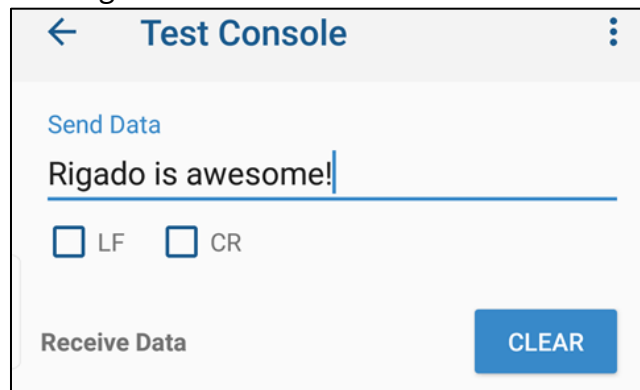

Figure 6. Toolbox Test Console "Rigado is awesome!"
2. Connect to RigCom. If there are multiple devices advertising, choose the one with the correct MAC Address (see figure 6). This should also have the highest RSSI value when the mobile device is near the evaluation board.